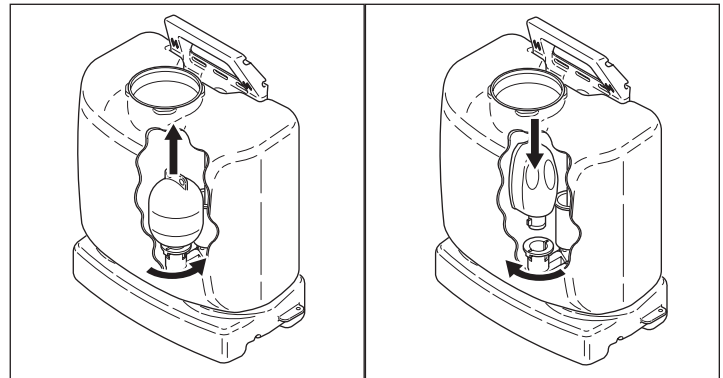

Figure 11. Changing the Pressure Chamber
2. Reach into the tank and turn the chamber 1/4 turn counterclockwise to unlock the chamber from the pump. See Figure 11.